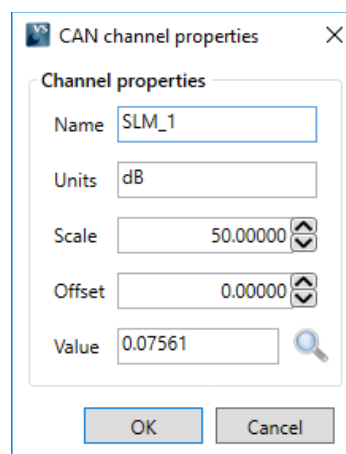

Figure 4 - Channel Properties Setup
2. Go to '**Settings**' and if you are using 'Sound Level Meter(s) only', toggle the Operation mode as shown below and click on '**Write to unit**' as shown in Figure 4.